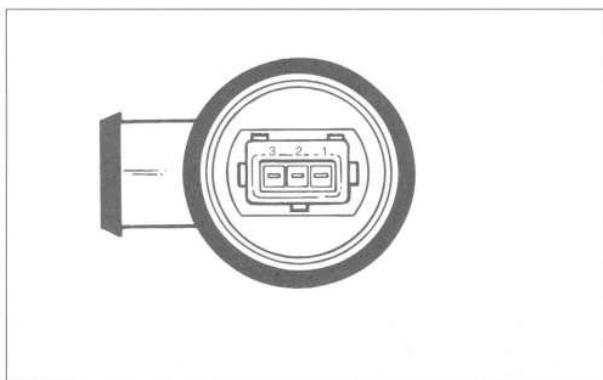

Fig. 15. Idle speed control valve terminal identification.
- If the valve is not buzzing, or if idle decreases in step 2, stop the engine and disconnect the harness connector from the valve. Check the resistance of the valve across its terminals. See Fig. 15. Test values are listed below.